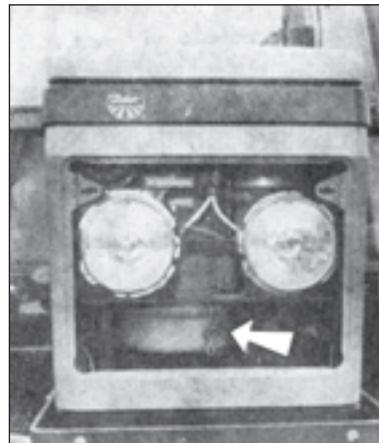

Fig. 184
2. Change the oil in the air-filter after every 100 engine hours. The oil chamber is positioned in the lower part of the air-filter in the dust bowl (Fig. 184). Dismantling will be done after the radiator grill has been removed and the three clips connecting the filter housing with the dust bowl has been released.